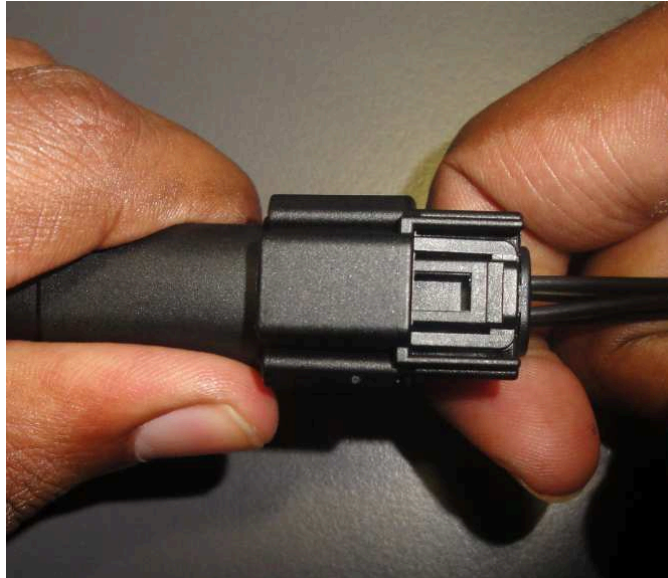

FIG. 4
- 1) Hold the connectors as shown in Fig 4.